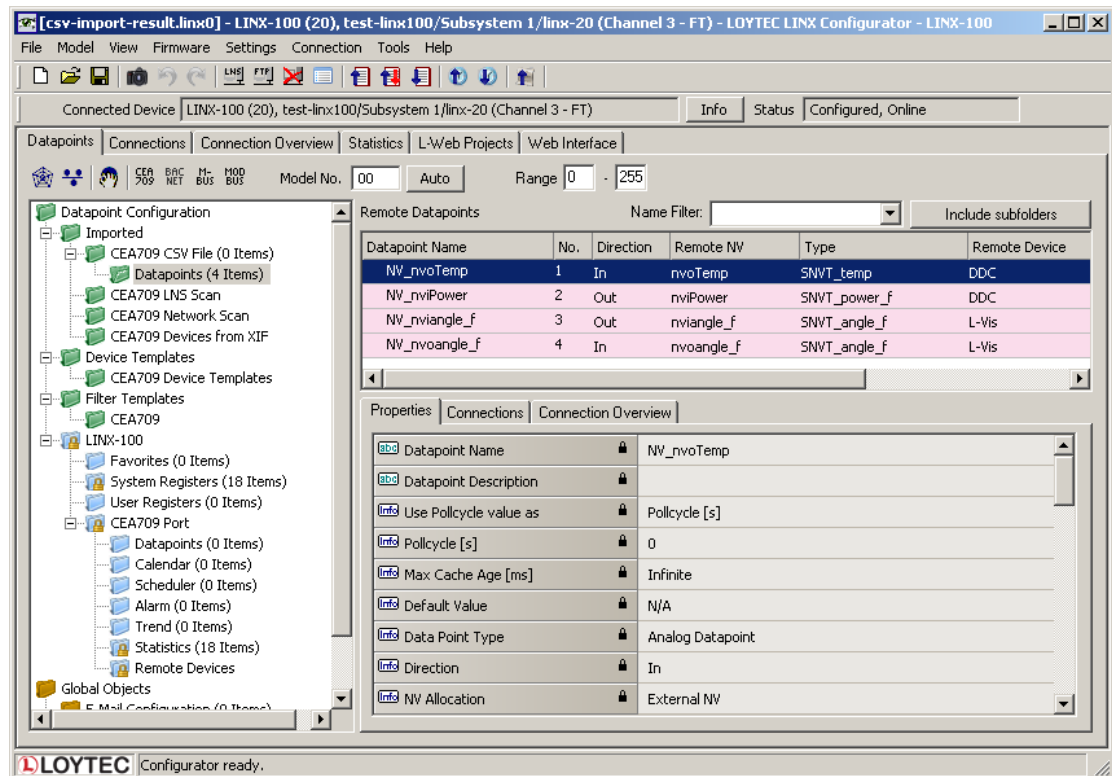

Figure 89: Imported NVs.
- Now the CSV File folder is populated with the imported NVs as shown in Figure 89.